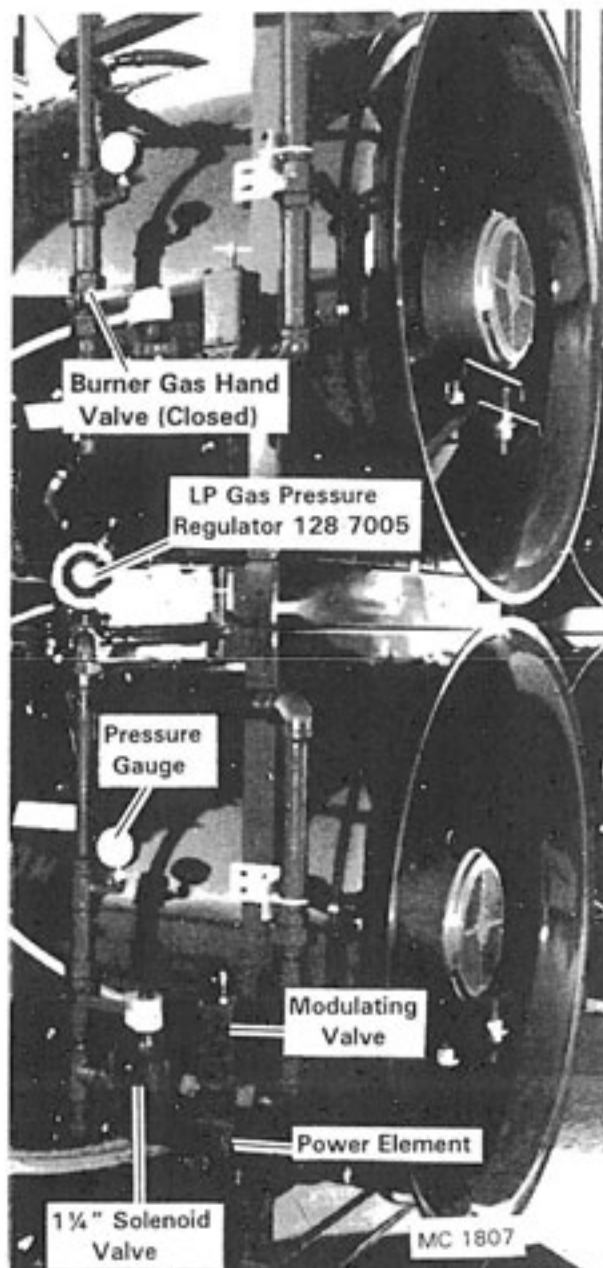

Figure 19 - LP Manifolds 670/970
(2) Ring 570, (1) Ring 370, 690, 670 & 970
11. **LP Gas Only** - With the burner operating, check the reading on the gas pressure gauge in the manifold. See Figure 19. It should be approximately 12 to 20 pounds (less in mild weather). If not, loosen the locknut on the pressure regulator adjusting screw. See Figure 19. Turn the adjusting screw IN to increase and OUT to decrease pressure.